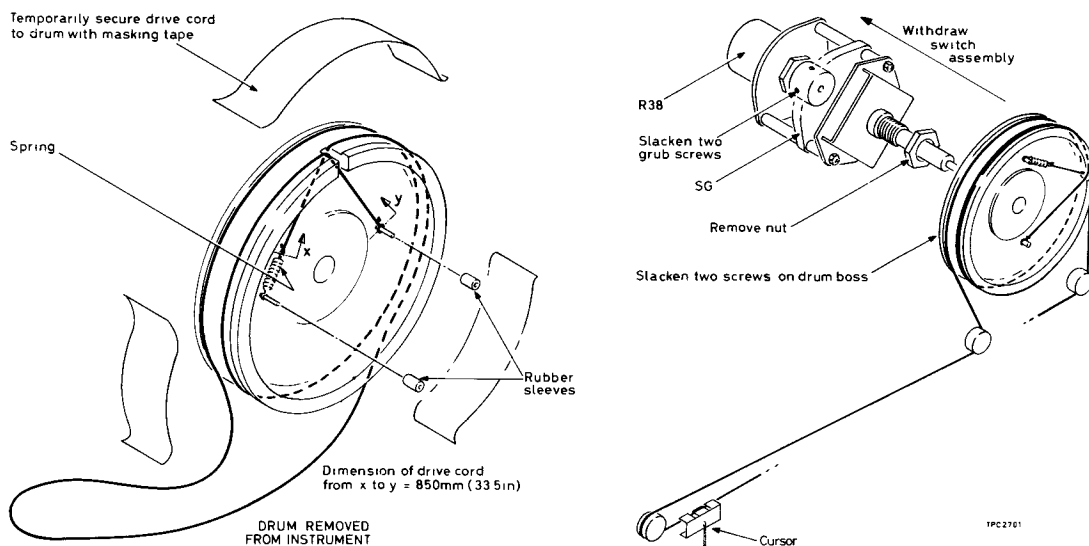

Fig. 1 Replacing cord drive
- (1) Remove the case from the instrument and remove the attenuator unit (see Chap. 4, para. 8).
- (2) Remove the scale plates for the three highest frequency ranges.
- (3) Set the RANGE switch to the 14.3 - 20.5 MHz position.
- (4) Stand the instrument upside-down on the bench.
- (5) Referring to Fig. 1, slacken the grub screws and unscrew the nut to pull aside R38.
- (6) Remove the drum and attach the drive cord as shown in Fig. 1, temporarily holding it in place with adhesive tape. Seal the cord knots with bakelite varnish.
- (7) Replace the drum and completely refit the switch SG and R38 assemblies.
- (8) Fit the loop of cord around the three pulleys. Check that the cord spring is under tension. If the cord has been properly dimensioned, the expanded length of the spring will be about 12 mm ( $\frac{1}{2}$  inch). Refit the knobs.
- (9) Attach the pointer to the drive cord and adjust its position so that it reaches (or just passes) the calibration marks on the 53 MHz to 120 MHz range (range 12).
- (10) Refit scale plates, attenuator unit and case.